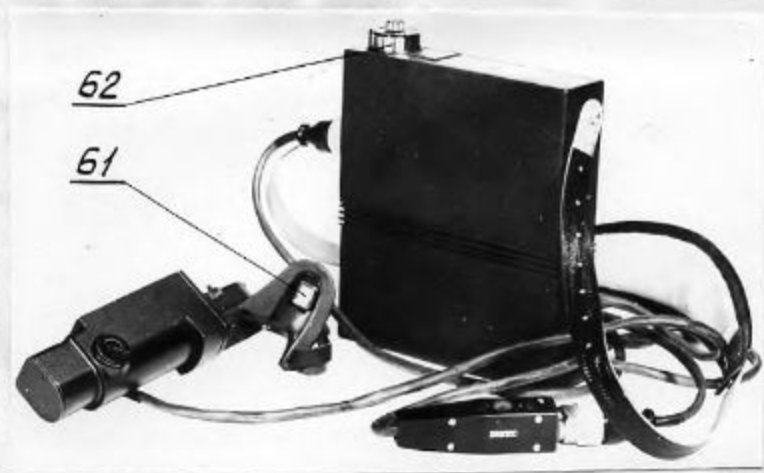

Fig. 12. DC electric drive with
2.P. PSS-M (Fig. 12) for shooting frequencies 8, 16, 25, 36, 48, 64 frame/s;
Set the shooting frequency using the remote controlled 62 (see Fig. 12), located on the power supply unit of the DC electric drive, by turning it to the required digitized position.